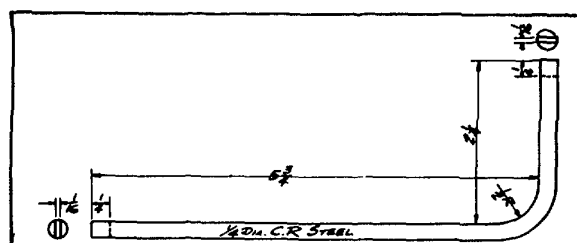

Fig. 22. Tang Bending Tool
2. Use tool 19229 to bend spring anchor tang to get desired top speed. See Fig. 21. To make own tool, see Fig. 22.